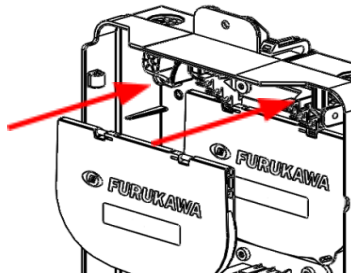

Fig. 28
- 3.8.1. Install the splice trays as needed (Fig.28)